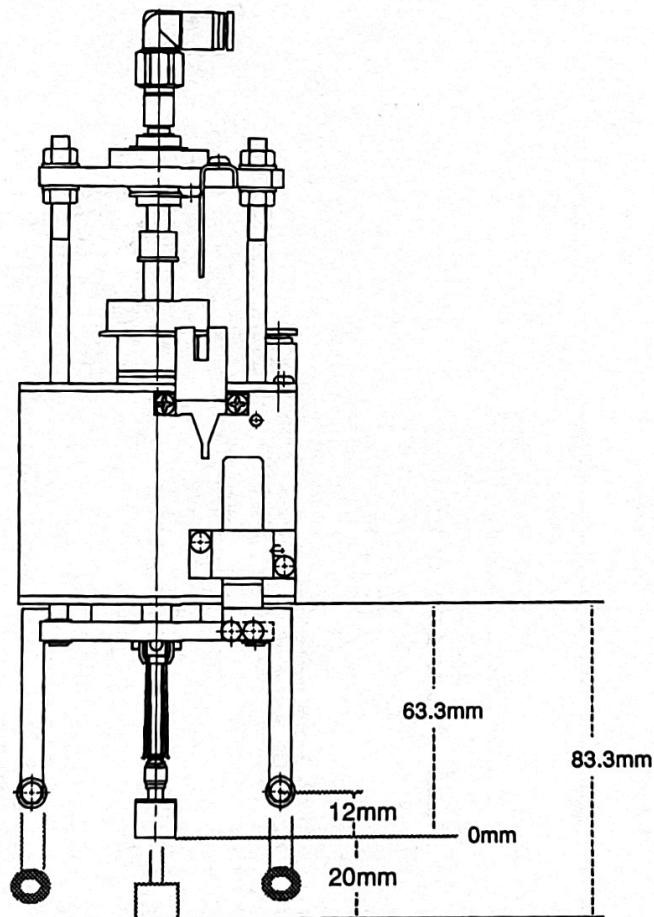

Fig. 3.5.1. Dimensions CSM84V vision head
• Check the nozzle down position (see figure 3.5.1.).
• Check the pushrod height (see figure 3.5.1.)